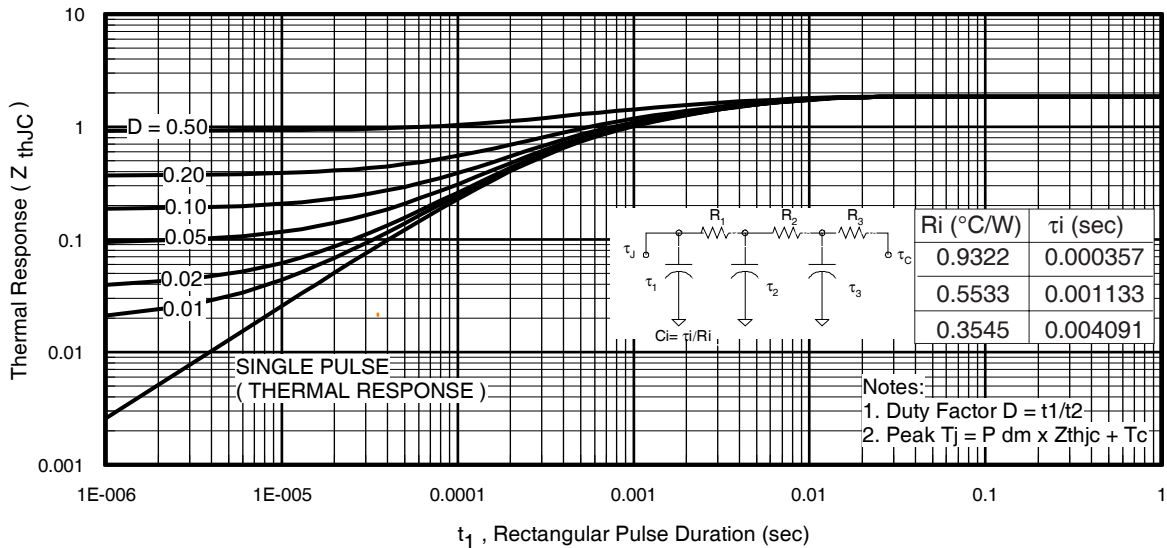

Fig 11. Maximum Effective Transient Thermal Impedance, Junction-to-Case
- ① Repetitive rating; pulse width limited by max. junction temperature. (See fig. 11).
- ② Limited by T_{Jmax} , starting $T_J = 25^\circ\text{C}$, $L = 0.13\text{mH}$, $R_G = 25\Omega$, $I_{AS} = 31A$, $V_{GS} = 10V$. Part not recommended for use above this value.
- ③ $I_{SD} \leq 31A$, $di/dt \leq 1070A/\mu s$, $V_{DD} \leq V_{(BR)DSS}$, $T_J \leq 175^\circ\text{C}$.
- ④ Pulse width $\leq 1.0\text{ms}$; duty cycle $\leq 2\%$.
- ⑤ $C_{oss\ eff.}$ is a fixed capacitance that gives the same charging time as C_{oss} while V_{DS} is rising from 0 to 80% V_{DSS} .
$Z_{thJC}(D, t_{av})$ = Transient thermal resistance, see figure 11)